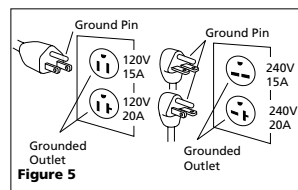

Figure 5
1. This product is for use on a nominal 120 or 240 volt circuit and has a grounding plug that looks like one of the plugs illustrated in Fig. 5. Make sure product is connected to an outlet having the same configuration as the plug. This product must be grounded. In the event of an electric short circuit, grounding reduces the risk of electrical shock by providing an escape wire for the electric current. This product is equipped with a cord having a grounding wire with an appropriate grounding plug. The plug must be plugged into an outlet that is properly installed and grounded in accordance with all local codes and ordinances.
1. If the plug on the electrical cord of the unit is unfamiliar to you or will not fit your particular receptacle, Figure 5 will help you understand why by illustrating the different plugs and the voltages they are to be used with.
1. Este producto está diseñado para conectarse a circuitos nominales de 120 ó 240 voltios y tiene un enchufe similar al de la Fig. 5. Cerciérese de conectarlo a un tomacorrientes diseñado para el enchufe. Este